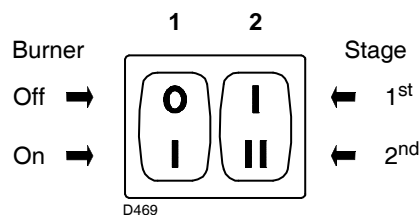

Fig. 35
- switch 1)(Fig. 35) to "burner ON" position
- switch 2)(Fig. 35) to "1st stage" position
Set switch 2)(Fig. 35) to the 2nd stage position: the servomotor will open the air gate valve at the previously set value for oil and will control the opening of the 2nd stage gas valve VR2.
Set the switch 2)(Fig. 35) to the 1st stage position: the servomotor will close the air gate valve at the previously set value for oil and will control the opening of the 1st stage gas valve VR1.